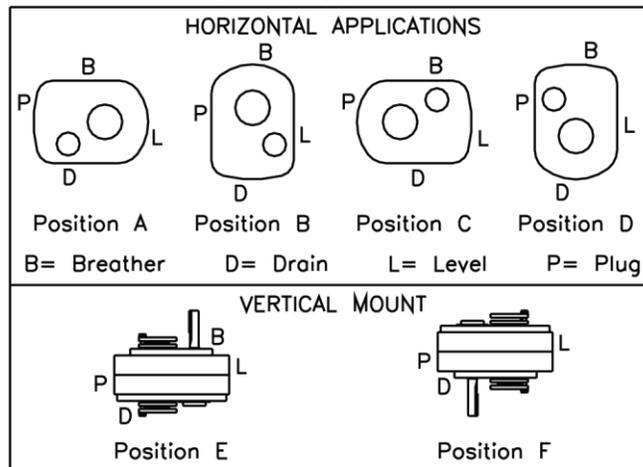

Figure 1. (Dodge® Manual MN1610)
The two Multiport Component fittings provided in the kit are mounted at the breather location and one at the drain location. When plumbed, the Level Gauge should be at the middle of the level location depending on the gearbox configuration. The parts diagram above depicts a Dodge® Torque-Arm™ #7 Gear Reducing unit mounted in the position B configuration of Figure 1. Noting the breather, drain and level port plug positions from the OEM manual.
2. Determine gearbox port locations from OEM manuals (See Figure 1 for Standard Dodge® Torque-Arm™ Gear Reducer)